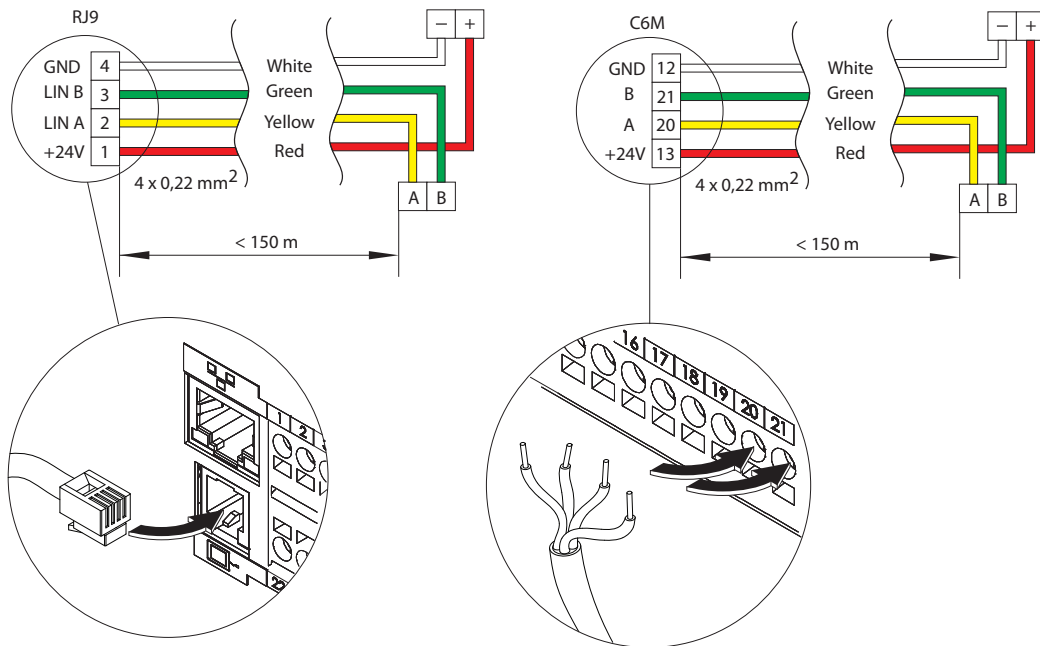

Fig. 16. Control panel cable wiring diagram
- **DX (15–16)** – control signal for external direct expansion (DX) cooler/heater.
- Control panel (see. Fig. 16)